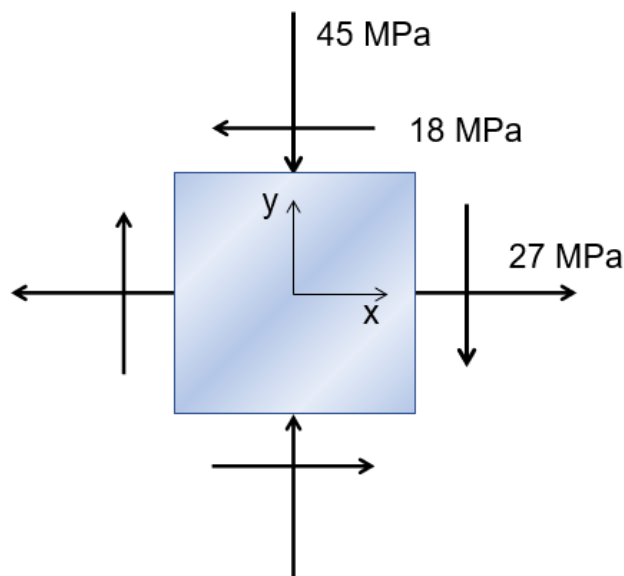

Figure 4a.5 – Stress state on an element
Consider the state of stress on an element as given below (shown in Figure 4a.5).
- Determine the principal axes (calculate the angle between the x-axis shown in Figure 4a.5 and the principal axes).
- Determine the orientation of the axes of minimum/maximum in-plane shearing stress (calculate the angle between the x-axis shown in Figure 4a.5 and the axes of minimum and maximum shear stress).